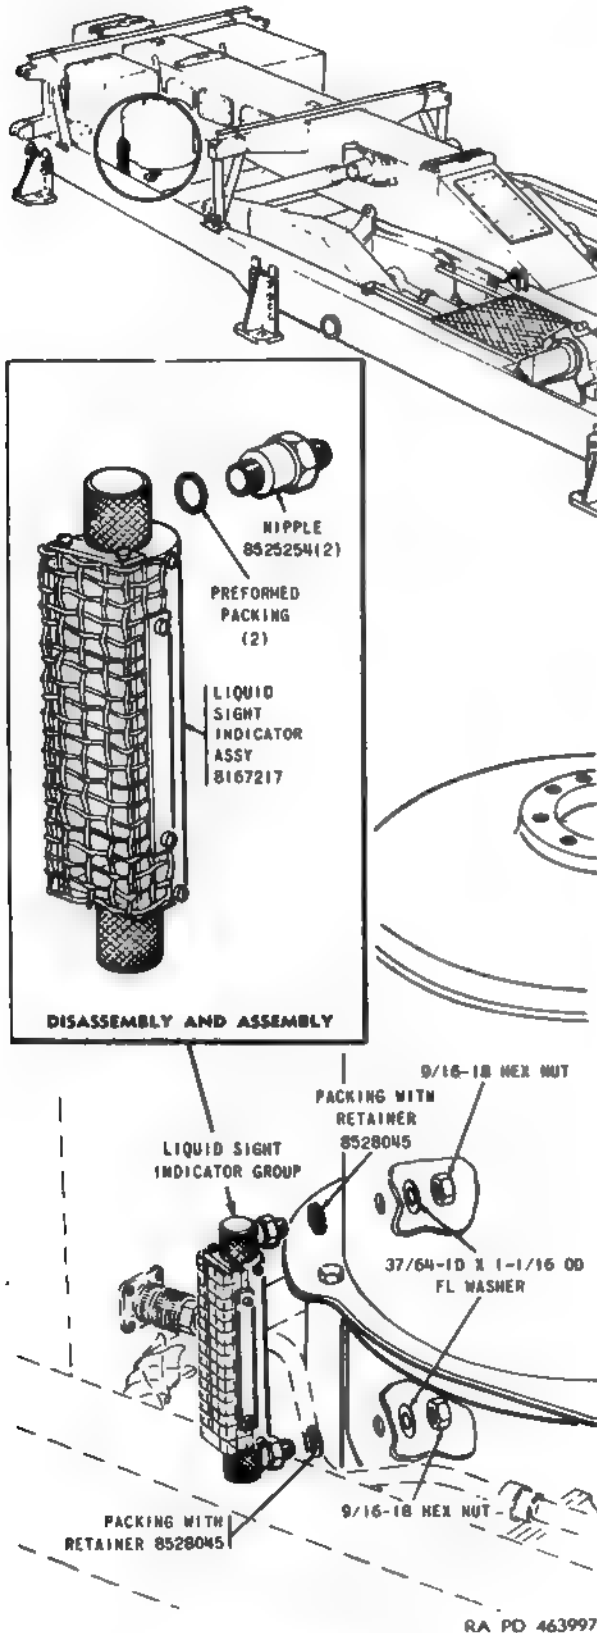

Figure 169. Liquid sight indicator group—removal and installation.
- (d) Remove liquid sight indicator group (fig. 169).
- (2) **Disassembly.** Remove nipples and preformed packings from indicator group.
- (3) **Assembly.** Attach nipples and preformed packings to liquid sight indicator group.